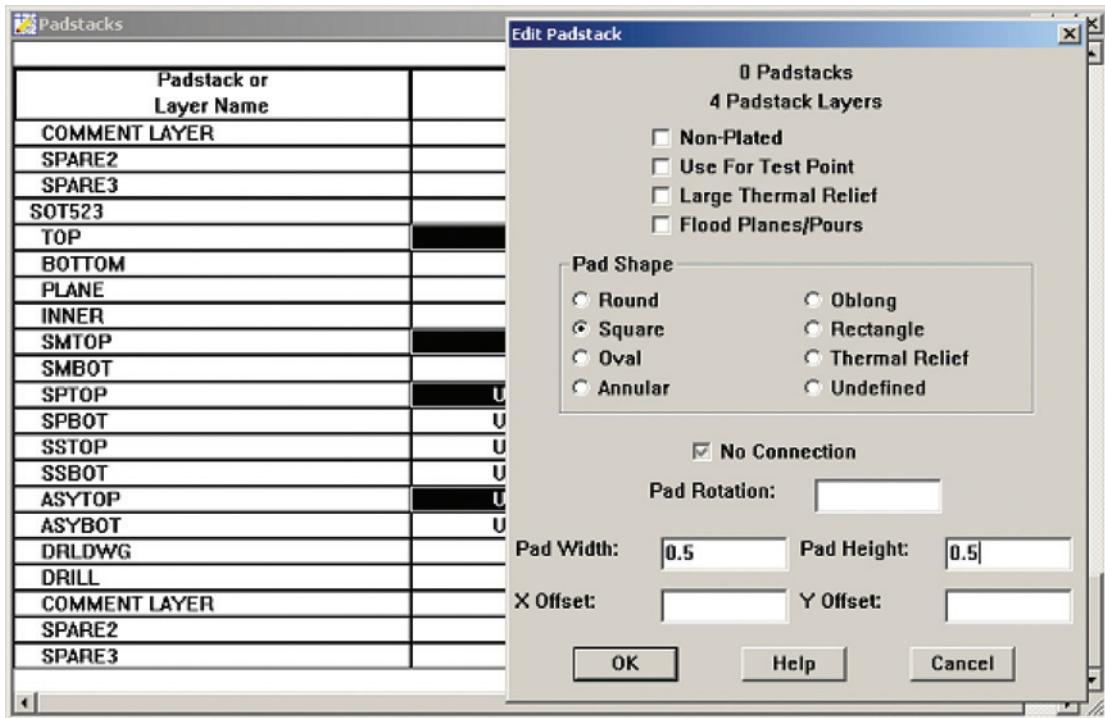

Figure 8-24 Padstacks spreadsheet and Edit dialog box.
**To define a new surface-mount padstack** open the **Padstacks** spreadsheet by clicking the **Spreadsheets** button , and then select **Padstacks** from the pop-up (Fig. 8-24). Select the T1 padstack and then right click select **New** from the pop-up. A new padstack definition will be inserted at the bottom of the spreadsheet with a default name of T8 and default pad dimensions identical to those of T1. Select the